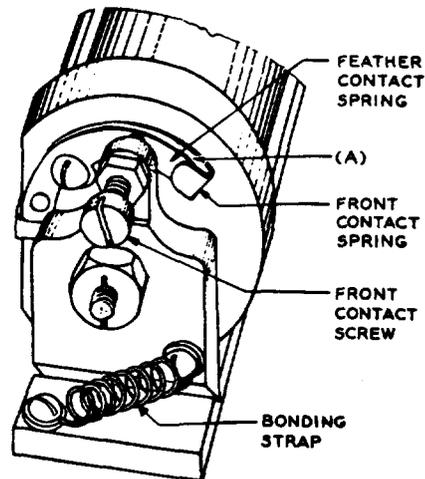

Fig. 5 - Relay With Feather Contact Spring
2.11 Feather Contact Spring Position: (108-A Relay Only) - Fig. 5 (A) - The feather contact spring shall rest against the turned over portion of the front contact when it is not engaged by the front contact screw.